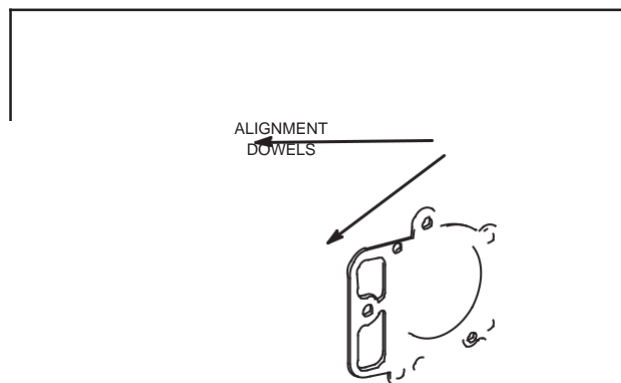

Fig. 22 – Install Cylinder Head Gasket
1. Place cylinder head gasket over alignment dowels on cylinder block, Fig. 22.